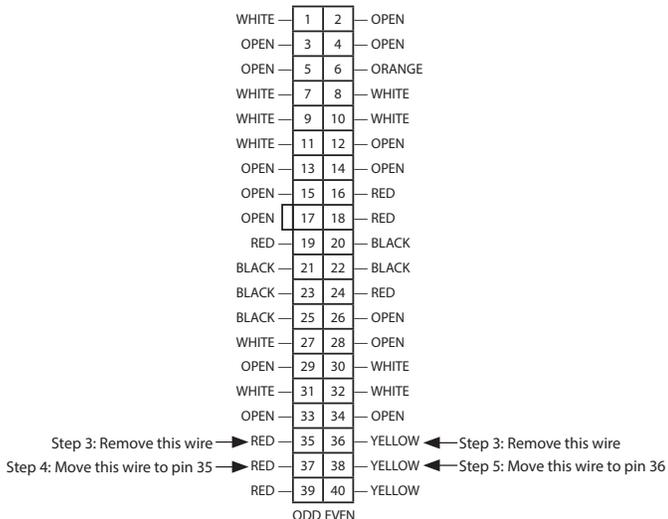

Figure 7: 40-Pin Connector
2. Remove the wires from pins 35 and 36 (Figure 7).
3. Move the wire from pin 37 to pin 35 (Figure 7).
4. Move the wire from pin 38 to pin 36 (Figure 7).